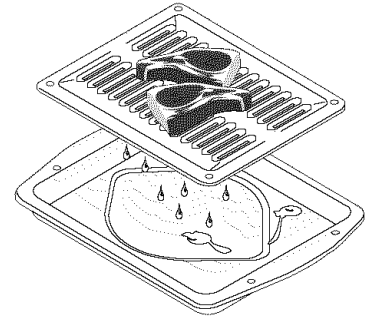

Figure 1
4. Place the insert on the broil pan, then place the food on the insert (See Fig. 1). **DO NOT** use the broil pan without the insert or cover the insert with **aluminum foil**. The exposed fat could ignite.